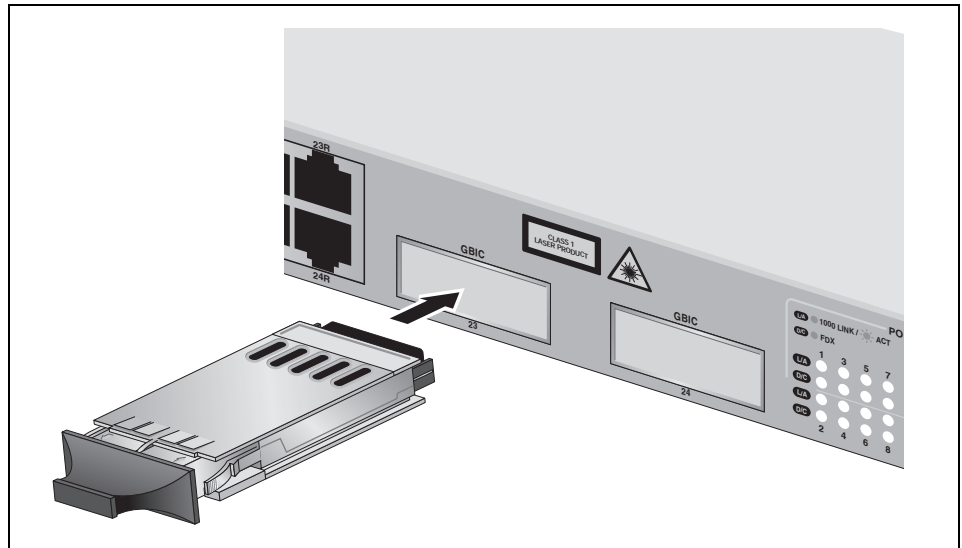

Figure 20. Installing a GBIC Transceiver
2. Slide the GBIC transceiver into the slot until it clicks into place, as shown in Figure 20. A GBIC transceiver can be installed in either slot.